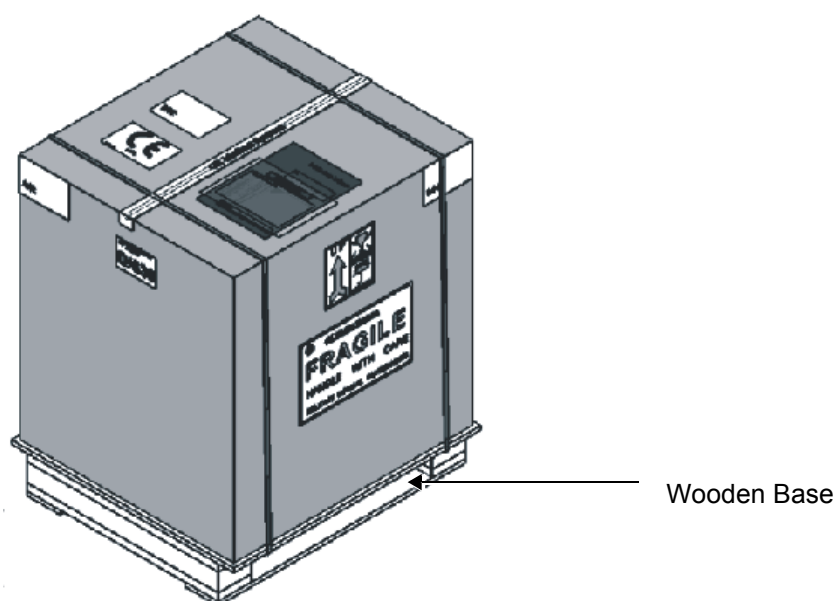

Figure 3-3 Shipping Carton - Vivid-i™/ Vivid-q™ with Peripherals Only
Where the specific customer requirements are for a Vivid-i™/ Vivid-q™ ultrasound unit with peripherals *only* (without SafeLock Cart), this is shipped in a smaller-sized cardboard shipping carton mounted on a raised wooden base - see Figure 3-3 on page 3-5.
- 1.) Cut the steel straps securing the shipping carton to the wooden base - see Figure 3-3 on page 3-5.